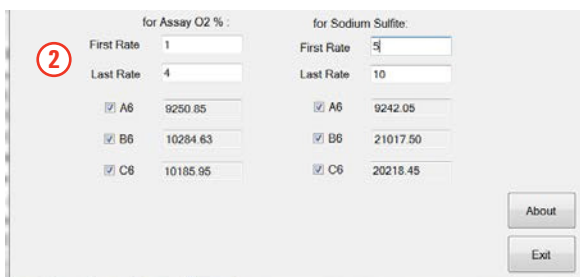

Figure 6. Identifying rate measurements and wells that did not respond to sodium sulfite.
4. Adjust the **First Rate** and **Last Rate** fields (2, Figure 6): if the sodium sulfite injection was after measurement 3, then the First Rate under **Assay O₂ %** should be 1, and the Last Rate should be 3. The First Rate for the sodium sulfite column will be rate 4, and the Last Rate will be the final rate measurement of the assay.